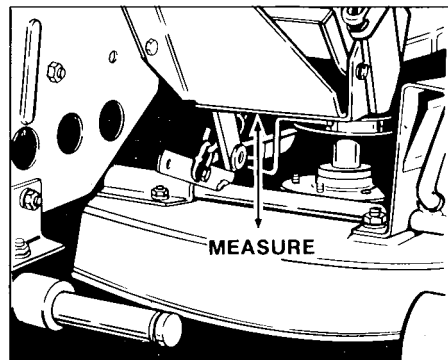

Figure 38. Measurement - Large Lift Lever
2. Measure the distance from bottom edge of lever bracket to mower deck (figure 38).